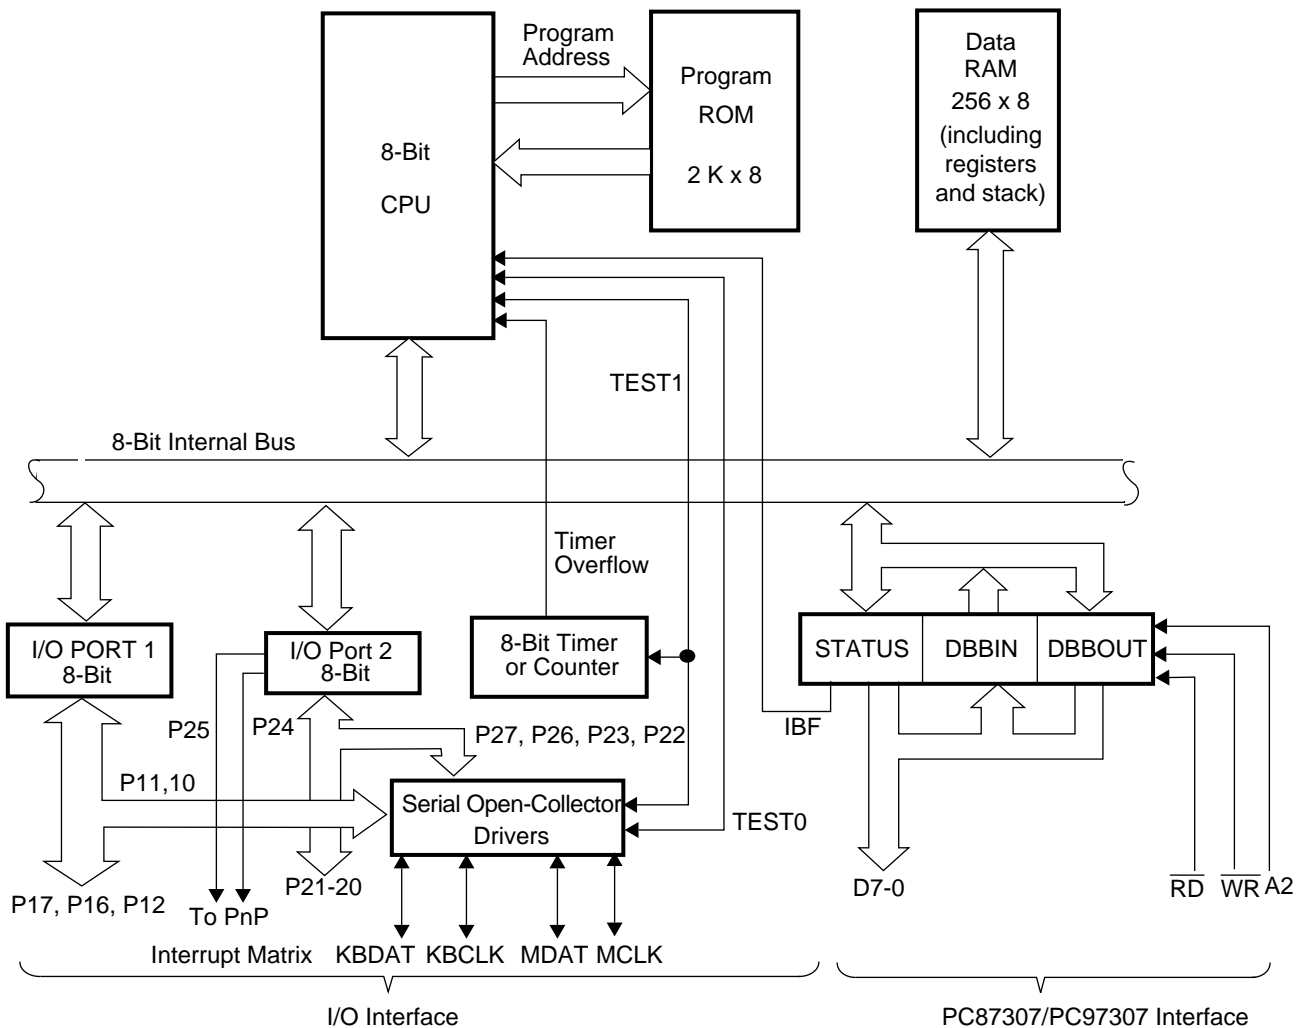

FIGURE 3-1. KBC System Functional Block Diagram
The KBC is a general purpose microcontroller, with an 8-bit internal data bus. See Figure 3-1. It includes the following functional blocks:
**I/O Ports:** Two 8-bit ports (Port 1 and Port 2) serve various I/O functions. Some are for general purpose use, others are utilized by the KBC firmware as shown in Figure 3-1.
The KBC has two internal interrupts: the Input Buffer Full (IBF) interrupt and Timer Overflow interrupt (see Figure 3-1). These two interrupts can be independently enabled or disabled by KBC firmware. Both are disabled by a hard reset. These two interrupts only affect the execution flow of the KBC firmware, and have no connection with the external interrupts requested by this logical device.
TEST0 and TEST1 are dedicated test pins, internally connected to KBCLK and MCLK, respectively, as shown in Figures 3-1 and 3-2. These pins may be used as logical conditions for conditional jump instructions, which directly check the logical levels at the pins.
The KBC interfaces internally with the part via three registers: an input (DBBIN), output (DBBOUT) and status (STATUS) register. See Figure 3-1 on page 43 and Table 3-1.